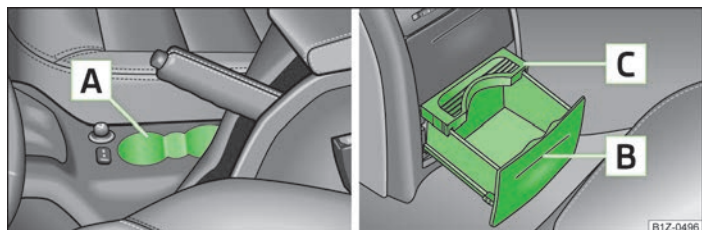

Fig. 63 Cup holder
Two beverage containers can be placed into the recesses **A** » Fig. 63.
- » Press on the panel in the area **B** » Fig. 63 - the cup holder comes out.